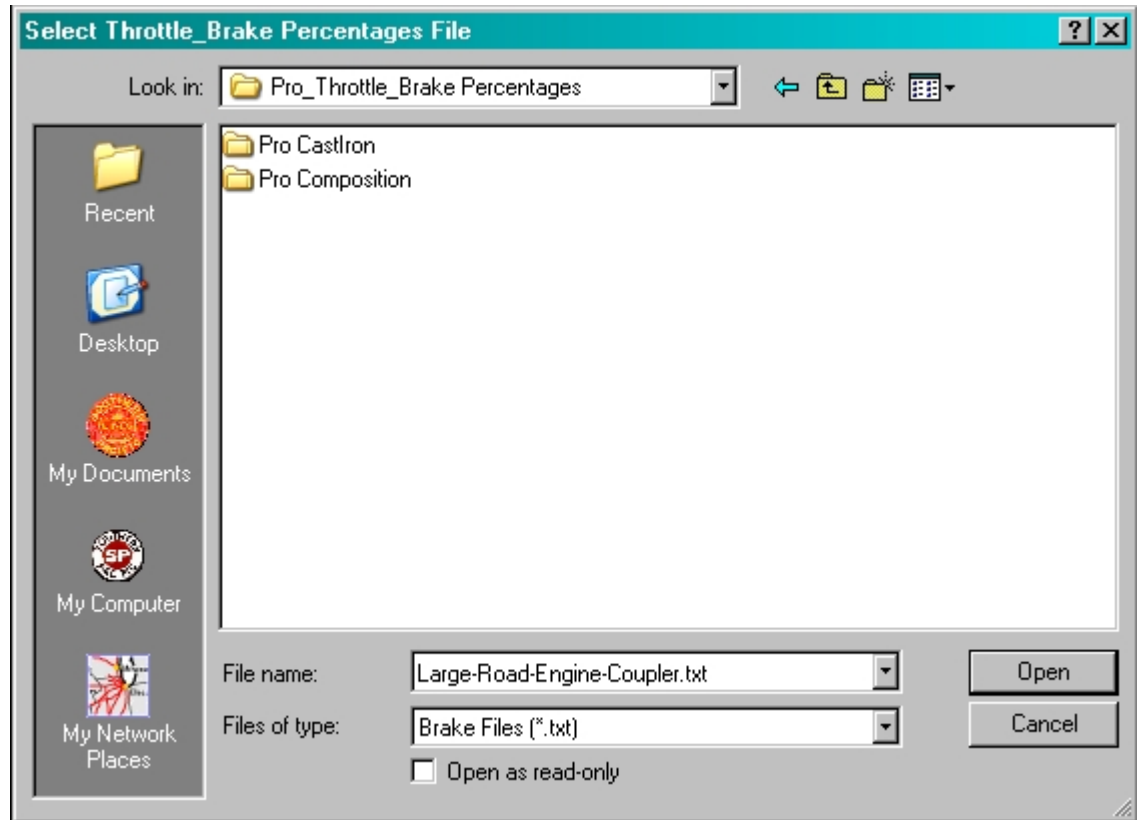

Figure 105
6. Since we determined that this engine came fitted with Composition Brake shoes from the photo's we studied on the website, we will now double left-click the **"Pro Composition"** folder in Figure 105.